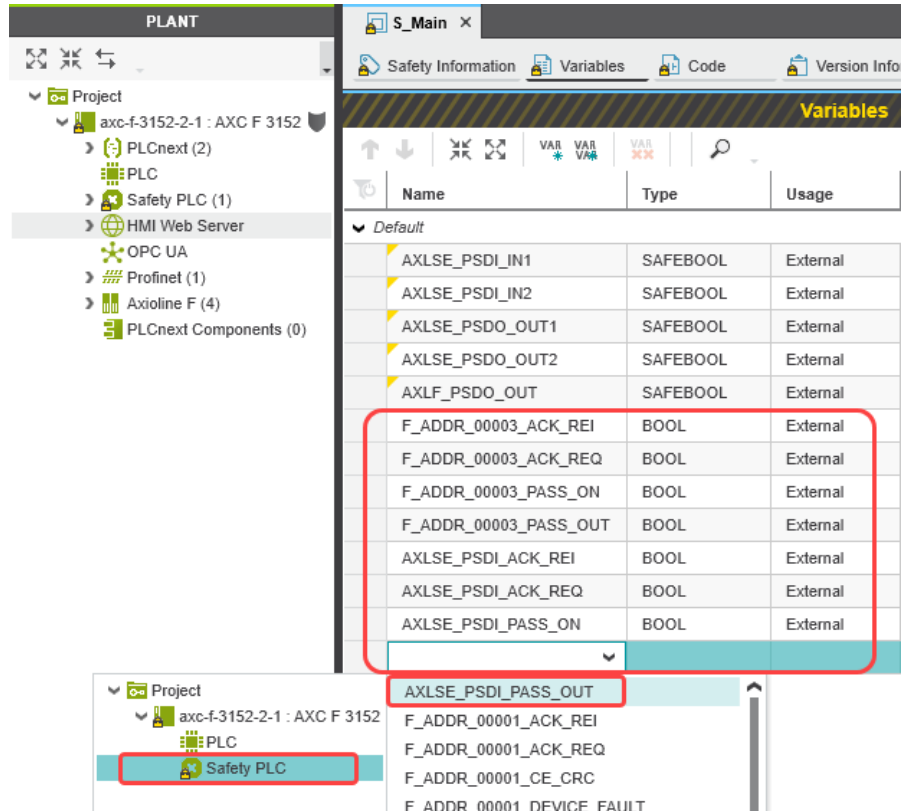

Figure 6-37 Selecting diagnostic/management variables
- Open the selection list by clicking on the arrow in the “Name” field (see Figure 6-37).
- Repeat this step for all the diagnostic/management variables and exchange variables shown in Figure 6-37.